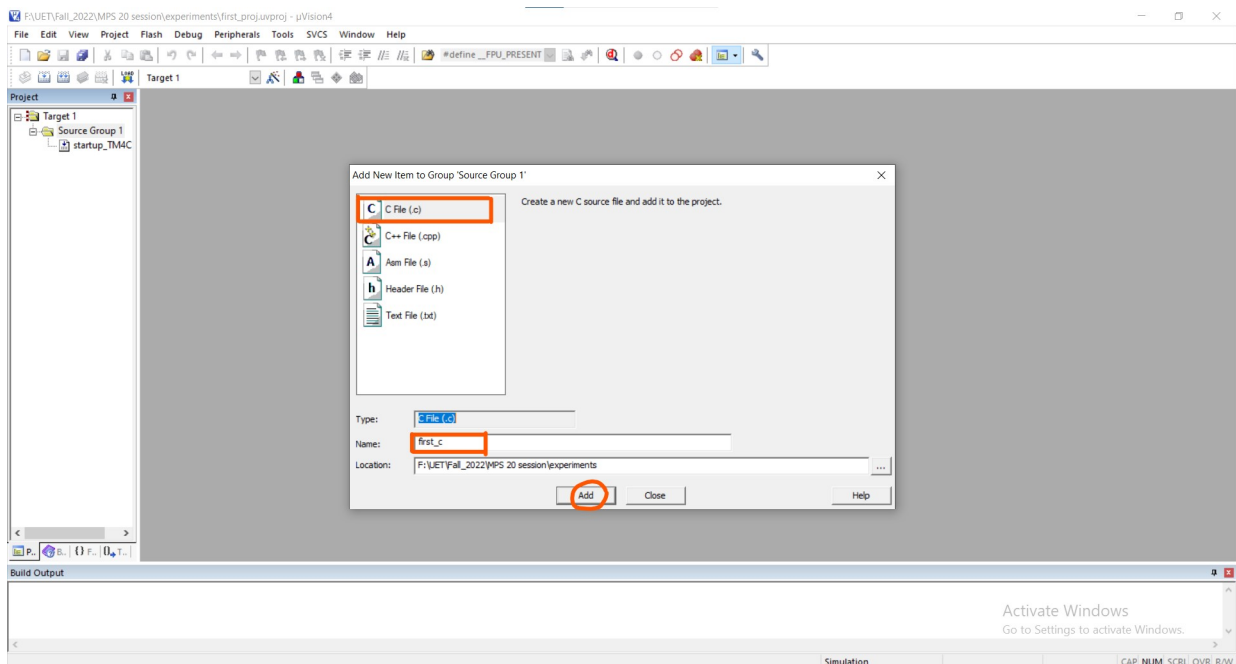

Figure 1.13: Add and save a new file to the project
6. Right click on *Source Group 1* under *Target 1*, click on **Add New Item to Group** 'Source Group 1'... and select the type of file you want to add (.c for C file), write its name in given space and click *OK* (Figure 1.13).